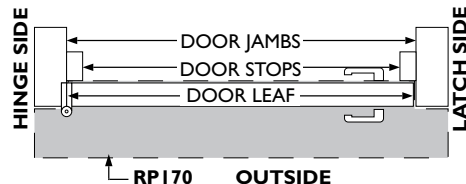

FIG.2
STEP 6 Apply silicon sealant to seal at sill (by others) (FIG.2).
STEP 7 If adhesive fixing, apply builders adhesive to ribbed underside of threshold ramp (refer notes) (FIG.2).